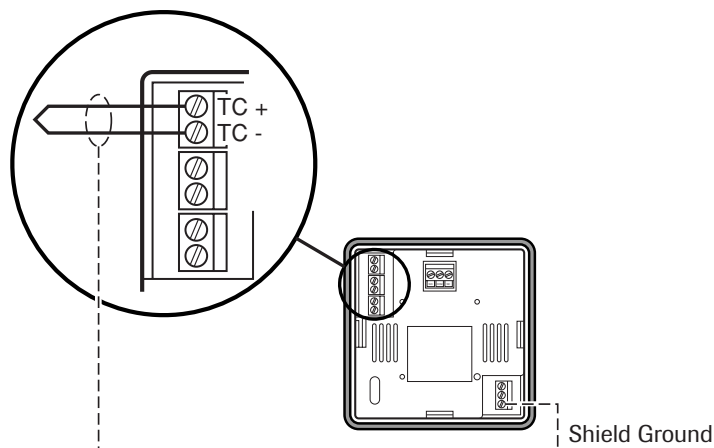

Figure 3.6
- **Shielded thermocouple wire**, if used, must have the shield grounded at one end only, preferably at the shield ground terminal on the controller as shown in Figure 3.6.
Make thermocouple wiring connections to terminals as shown in Figure 3.6.